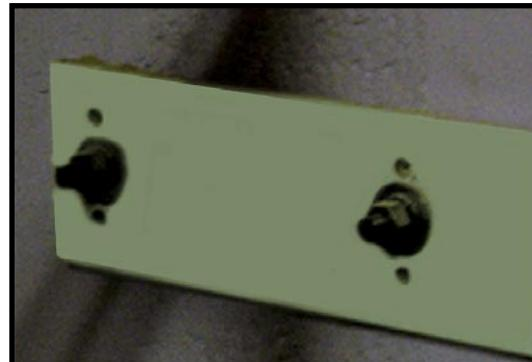

Figure 14 Cut Off excess through bolt
- 11) Install the pre-assembled rail brackets using the wall fasteners making sure that the brackets are level. If thru-bolts are used cut off the excess threaded rod protruding from the rail brackets as shown in Figure 14.